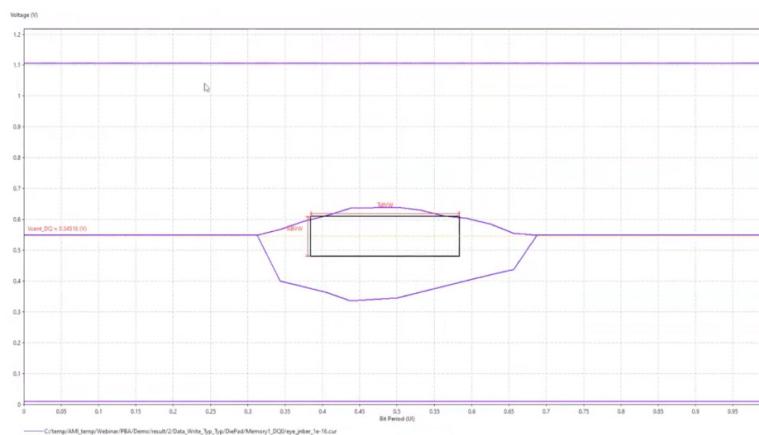

Figure 24: Eye mask for the second, faster simulation
- ▶ Looking at the results, it can be seen that the mask is being violated (Figure 24) and the report is generating a failure. This shows that the report is actually both pass and fail conditions.